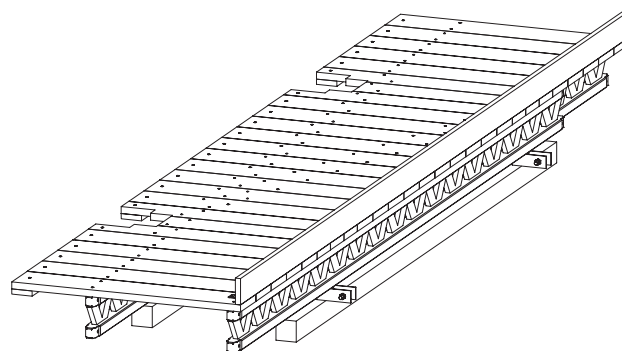

Fig. C4.02
- The finishing platform is pre-assembled. (Fig. C4.02)